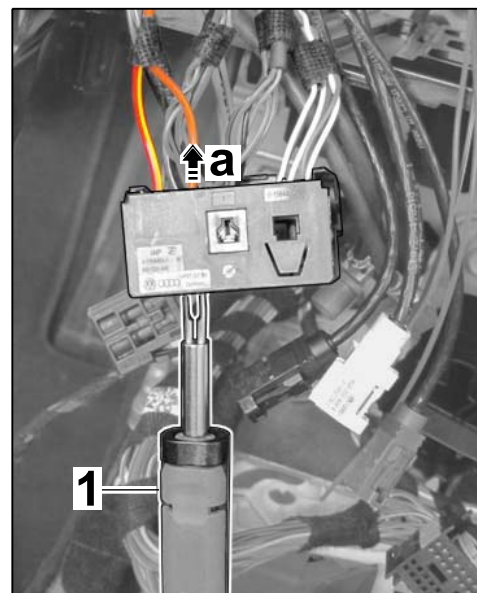

Figure 23
- 4.4.6 Release socket contacts using a suitable press-out tool ⇒ *Figure 23 -3-* and press lines out of the PCM central connector ⇒ *Figure 23-a-*.